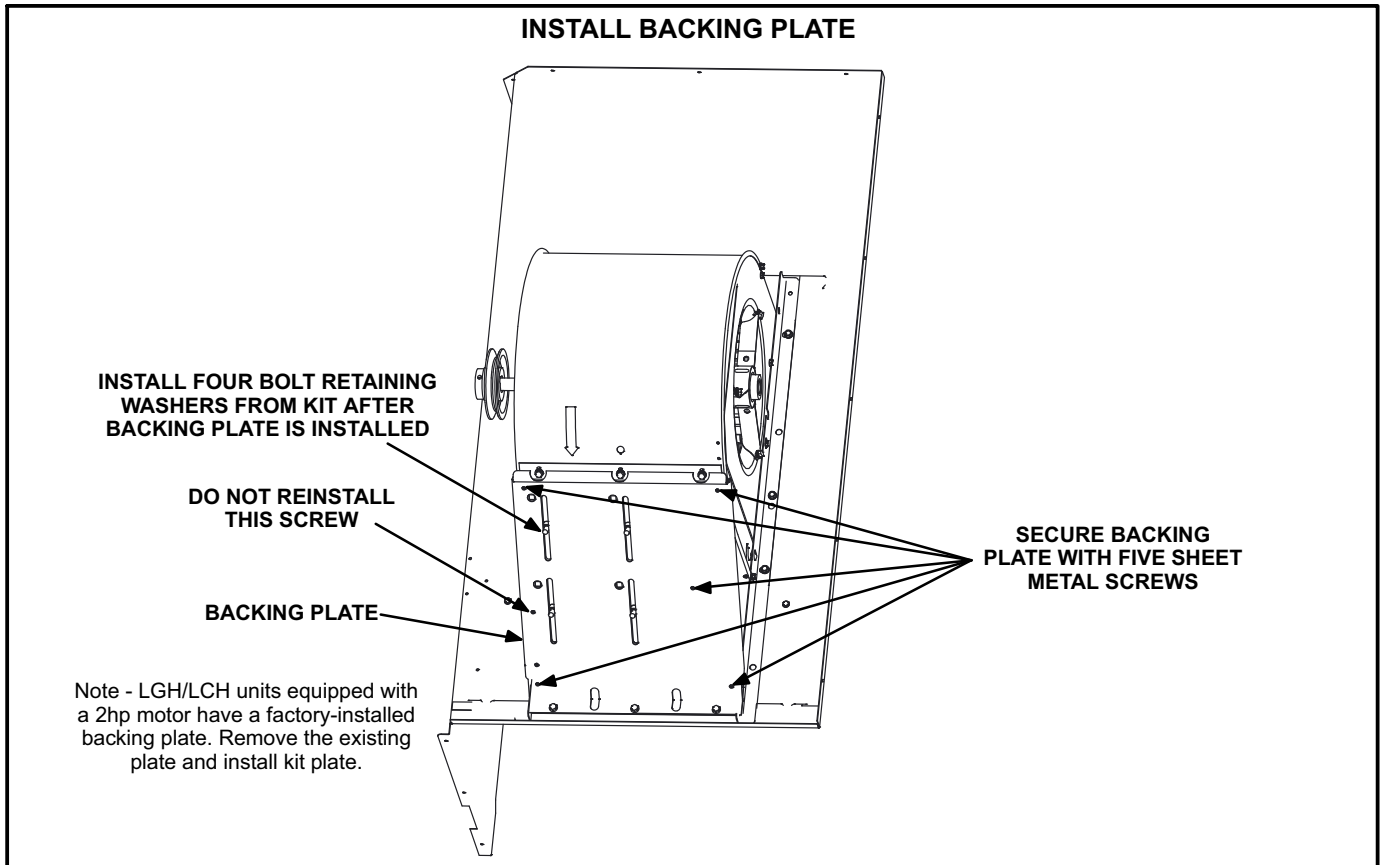

FIGURE 2
- 8- Install blower motor base backing plate and secure with five 3/8" sheet metal screws, provided in kit. See figure 2.